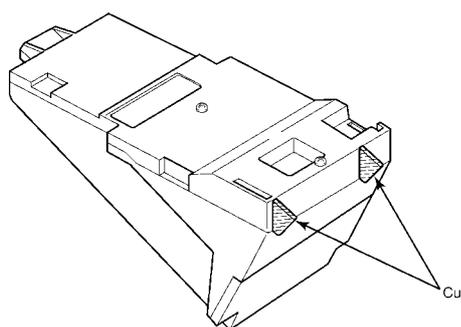

**Figure 4-24: Installed Wall Mount Unit**
- When properly installed, the wall-mounted Multiline Terminal looks similar to the one shown in *Figure 4-24: Installed Wall Mount Unit, Pg 75*.